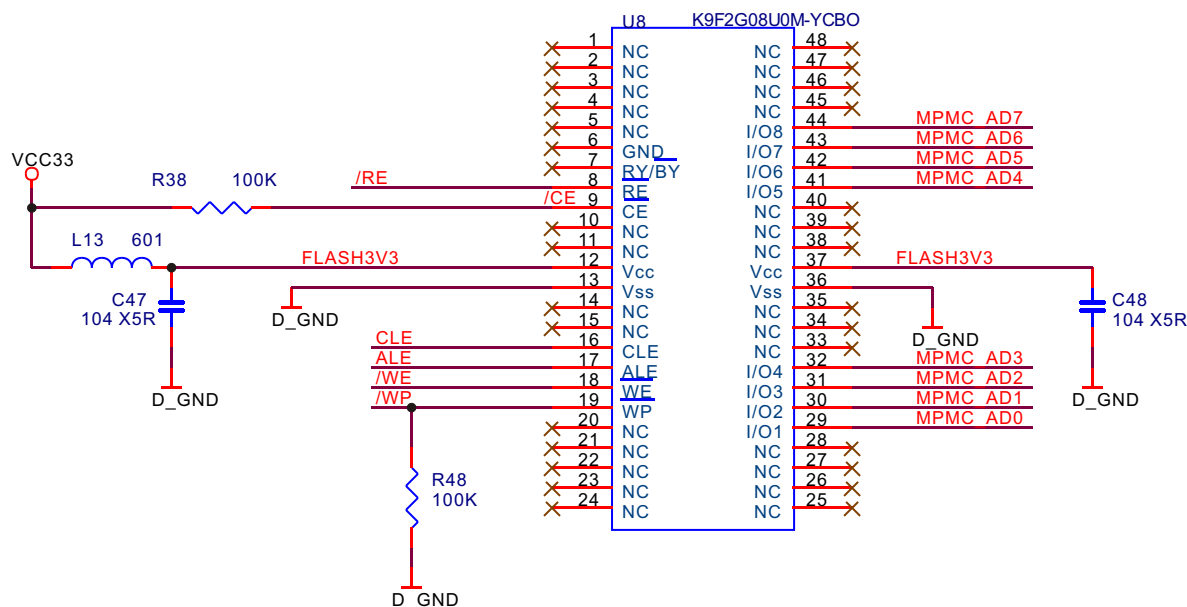

Figure 3.2.1.1 Flash circuit schematic diagram
1. FLASH circuit schematic diagram is shown in the figure 3.2.1.1: